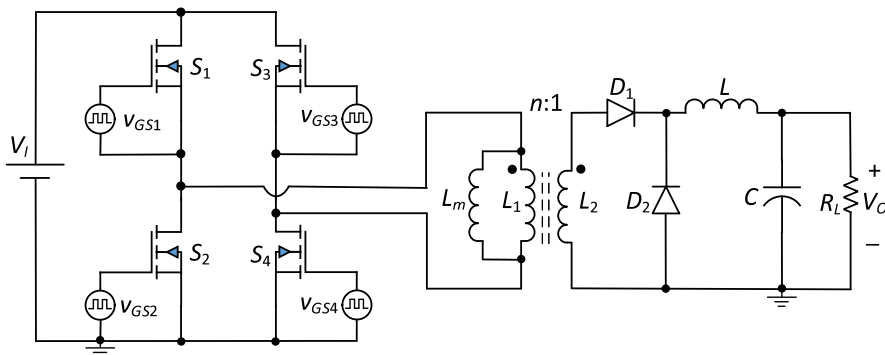

Figure 27.1 Circuit diagram of the PWM full-bridge dc–dc converter with half-wave rectifier.
1. Construct the circuit of the half-bridge converter shown in Figure 27.1 on the circuit simulator. You may use (a) a dc/dc ideal transformer and place an inductor L_m in parallel or (b) use the model of the two-winding transformer as shown at the end of this lab. Choose an appropriate number of turns. You may select $N_1 = 8$ and $N_2 = N_3 = 2$.